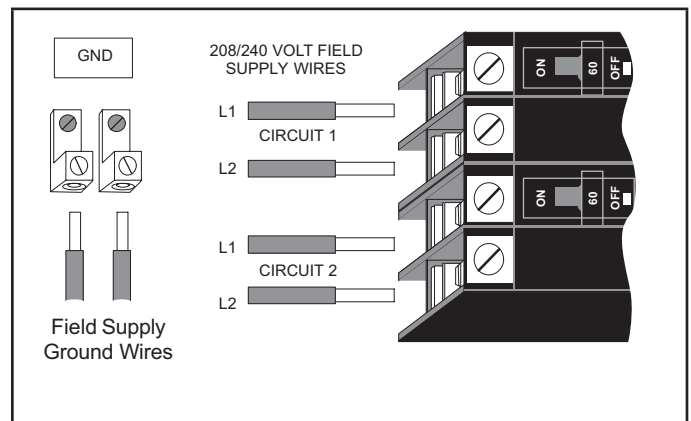
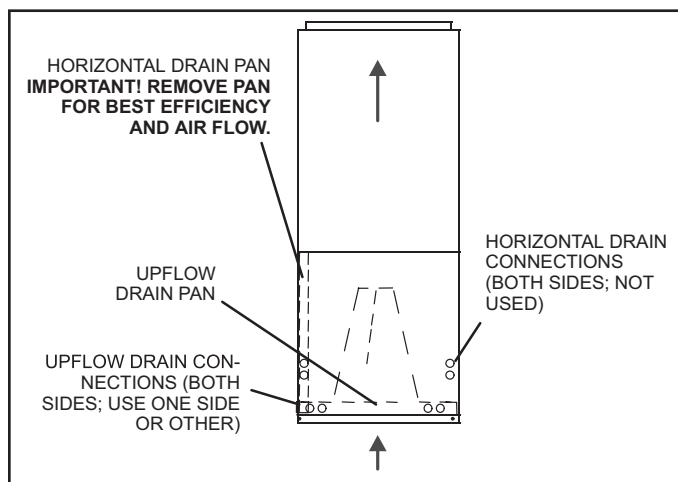

FIGURE 10. Field Power Supply Wiring
FIGURE 13. Upflow Configuration
Refer to figure 13 for typical low voltage field wiring for air handler/condensing unit and heat pump applications. Figure 10 is a diagram of the air handler connections and the heater high-voltage wiring.
- 9 - Cut an opening appropriately sized for combustible base. Base dimensions are illustrated in figure 10. After opening has been cut, set the additive base into opening. Connect outlet air plenum to the additive base. Set the unit on the additive base so flanges of the unit drop into the base opening and seal against the insulation strips. The unit is now locked in place. Install return air plenum and secure with sheet metal screws.